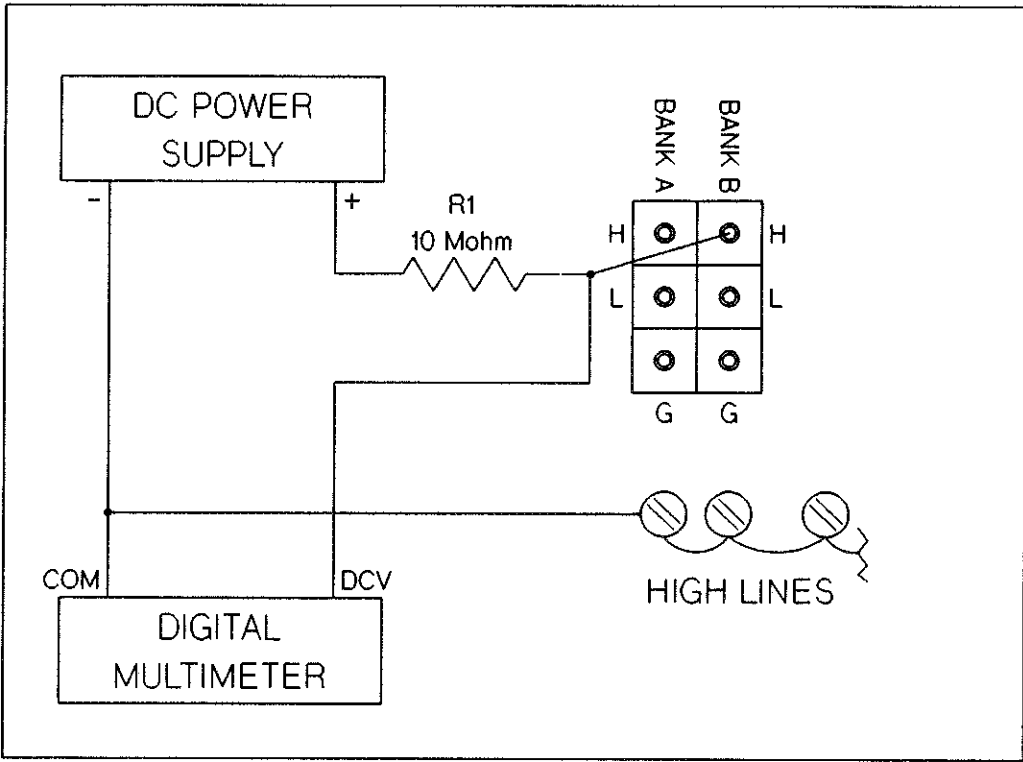

Figure 8-16 HP 44705A/H Bank B HIGH to Common DC Isolation
11. Connect the test circuit between the Bank B HIGH common test point and the shorted HIGH lines of the test fixture as shown in Figure 8-16.